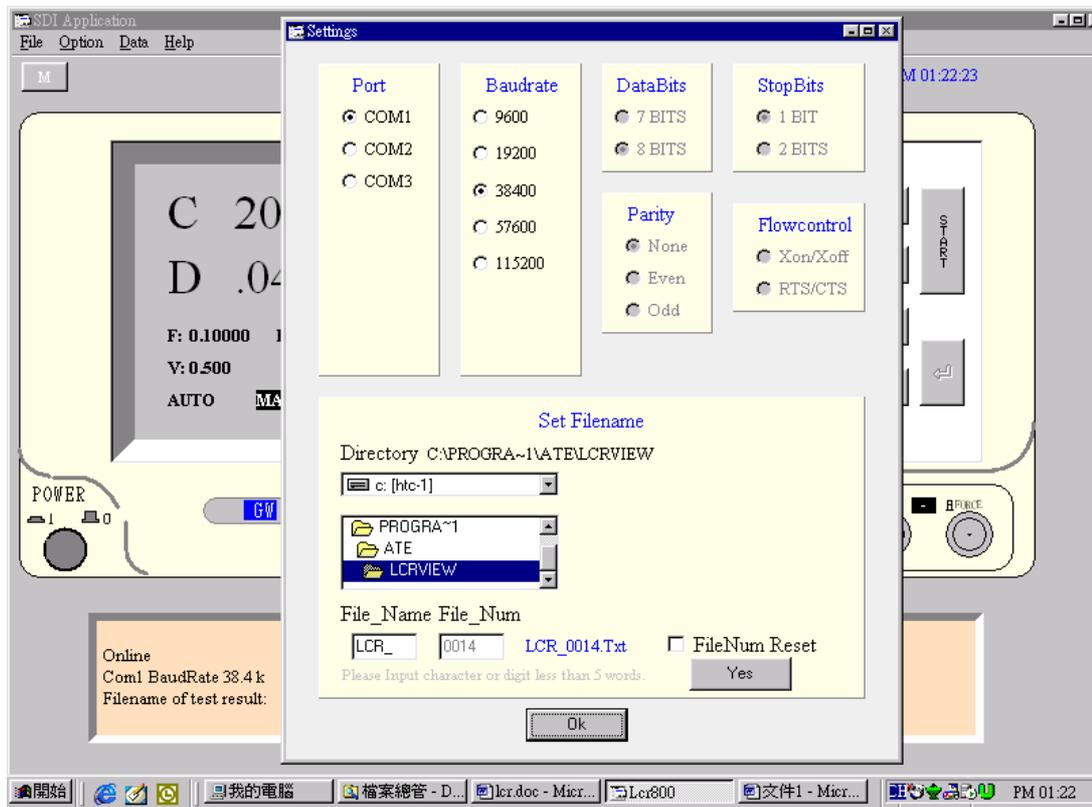

Figure 8-7
**Format:** 8 Data bits, no parity, 1 stop bit. These settings cannot be altered, (Figure 8-7).